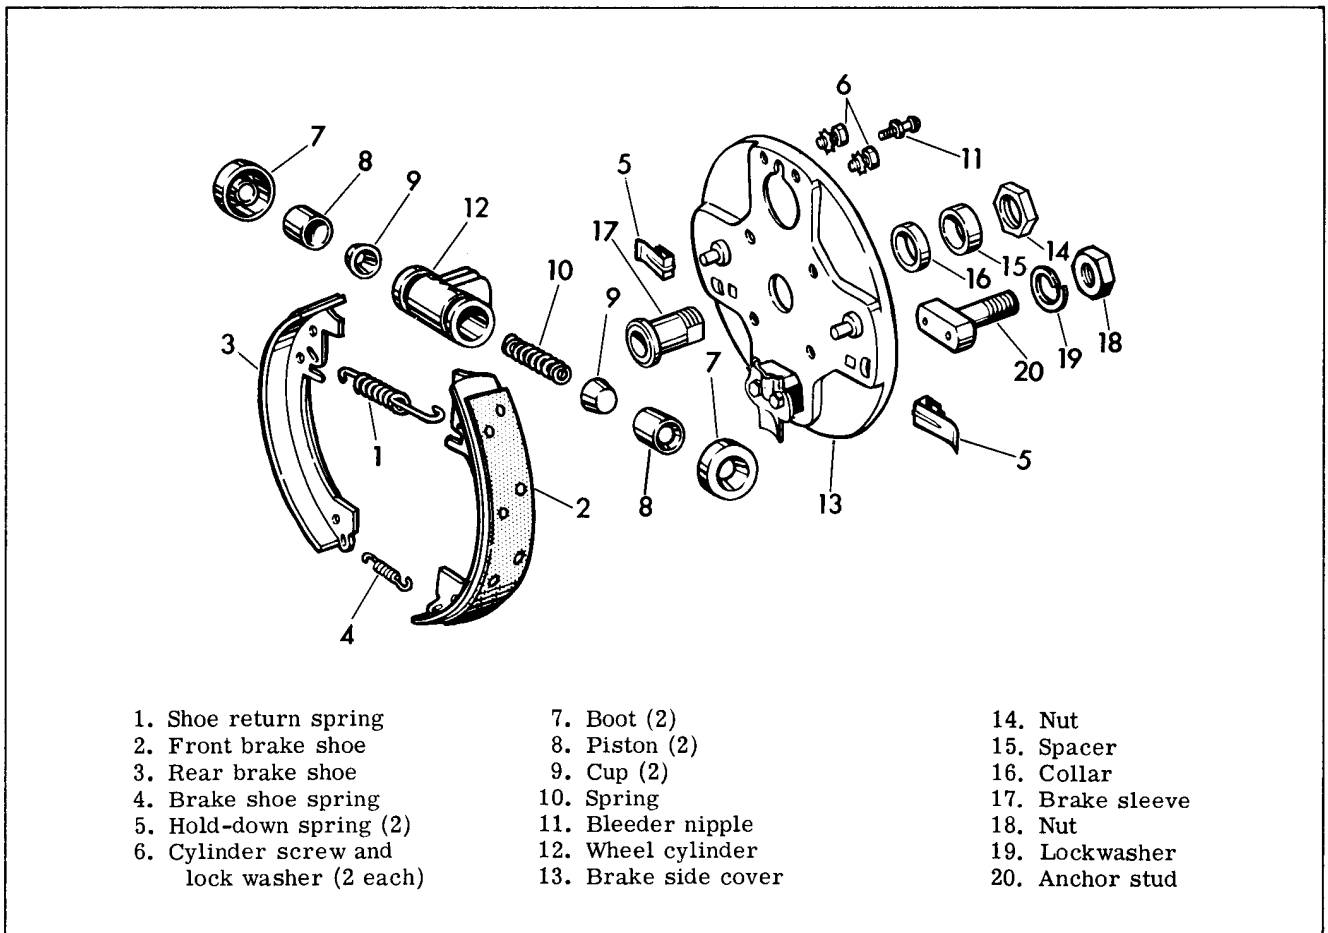

Figure 2-41. Rear Wheel Brake - Exploded View
**DISASSEMBLING REAR WHEEL BRAKE (Figure 2-41)**
**INSPECTING AND SERVICING (Figure 2-41)**
#### ASSEMBLING REAR BRAKE (Figure 2-41)